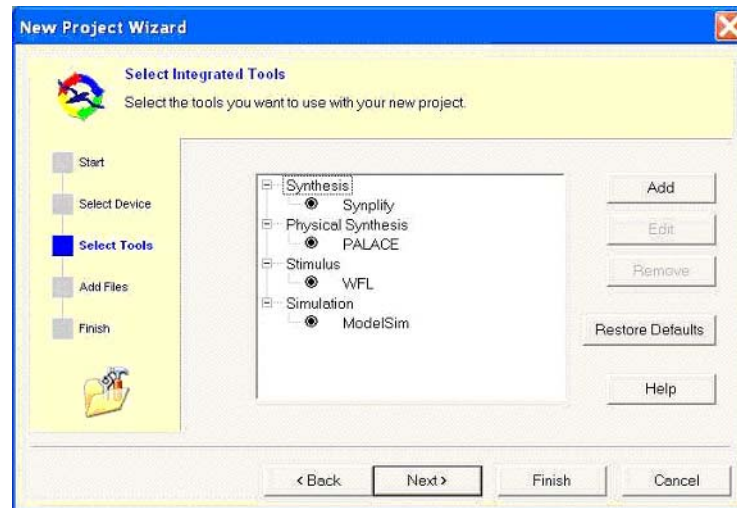

Figure 7-4 • Selected Integrated Tools in New Project Wizard (Libero IDE)
7. Click **Next** to select **Integrated Tools** in the **New Project Wizard** (Figure 7-4).